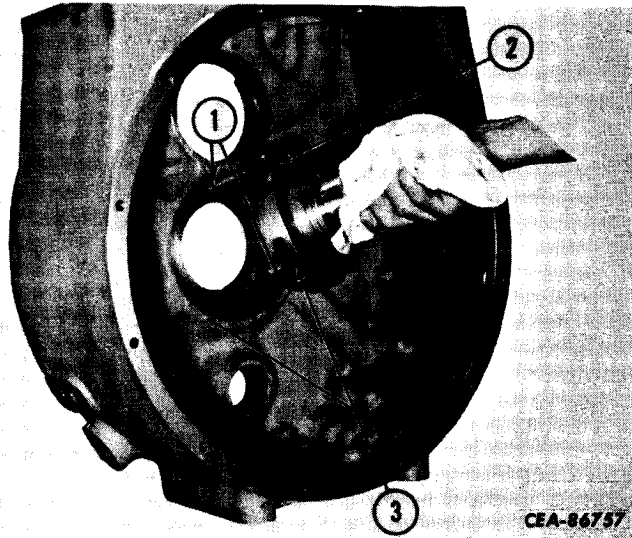

Figure 2-26
8. Fabricating guide bolts by cutting the heads from two 3/8" x 3" N. C. cap screws (Fig. 2-26).